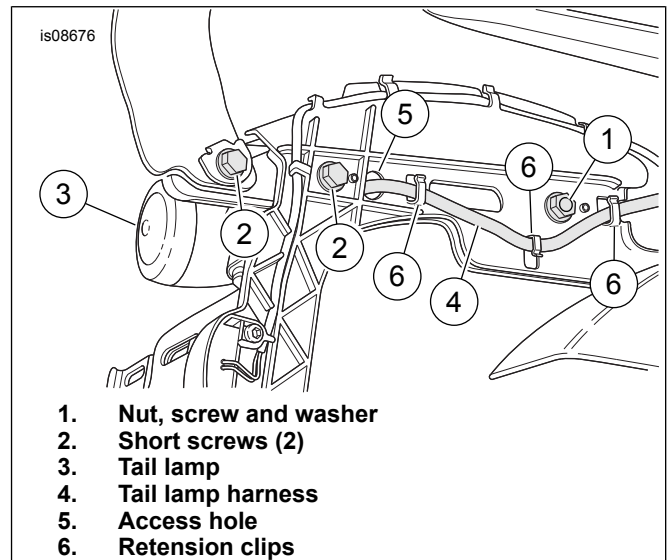
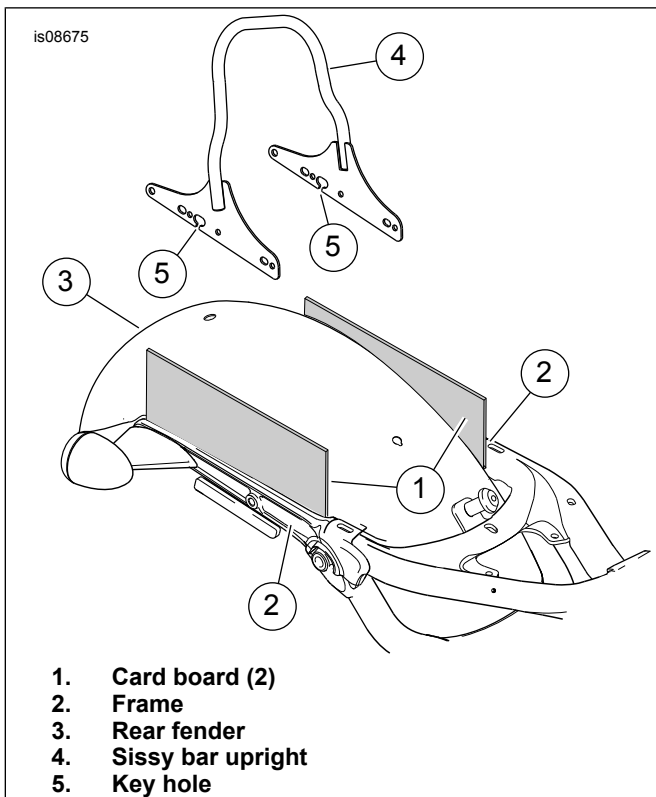

Figure 1. Screws, Harness and Access Hole (view from inside fender)
Figure 2. Cardboard, Frame, Fender, Sissy Bar and Key Hole
5. See Figure 1. Remove screws (2) and nut, screw and washer (1).
6. Remove screws (2) and nut, screw and washer (1) from both sides.
7. See Figure 2. Slide cardboard (1) between the fender (3) and frame (2).
8. Slide the sissy bar (4) into place. The keyhole (5) is designed to slide over the tail lamp harness.
9. See Figure 1. Remove any slack in the tail lamp harness (4), if necessary. Verify that tail lamp harness is installed in retention clips (6) as shown.
10. Apply LOCTITE 243 (blue) to the threads of screw. Slide the screws (2) into place. Install nut, screw and washer (1).